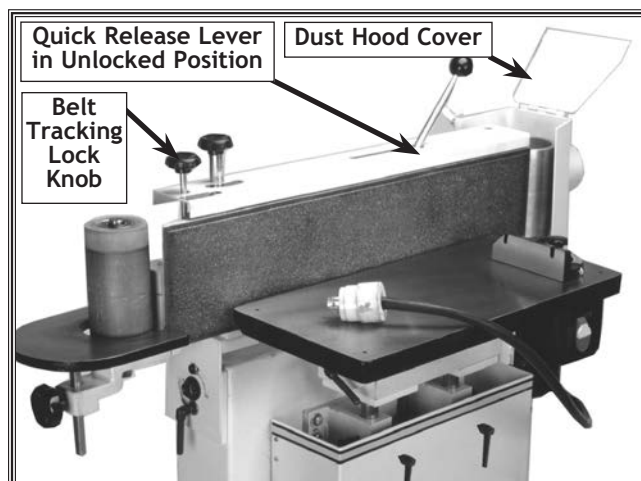

Figure 21. Belt tracking lock knob, dust port cover, and quick release lever.
1. Loosen the belt tracking lock knob. See Figure 21.
2. Unlatch and open the dust port cover. See Figure 21.